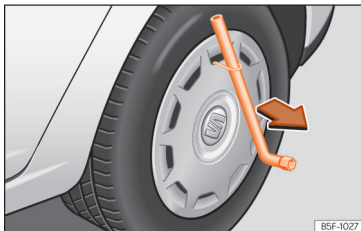

Fig. 187 Remove the wheel cover.
- Insert the box spanner through the hook, rest it on the tyre and remove the wheel trim >>> Fig. 187.